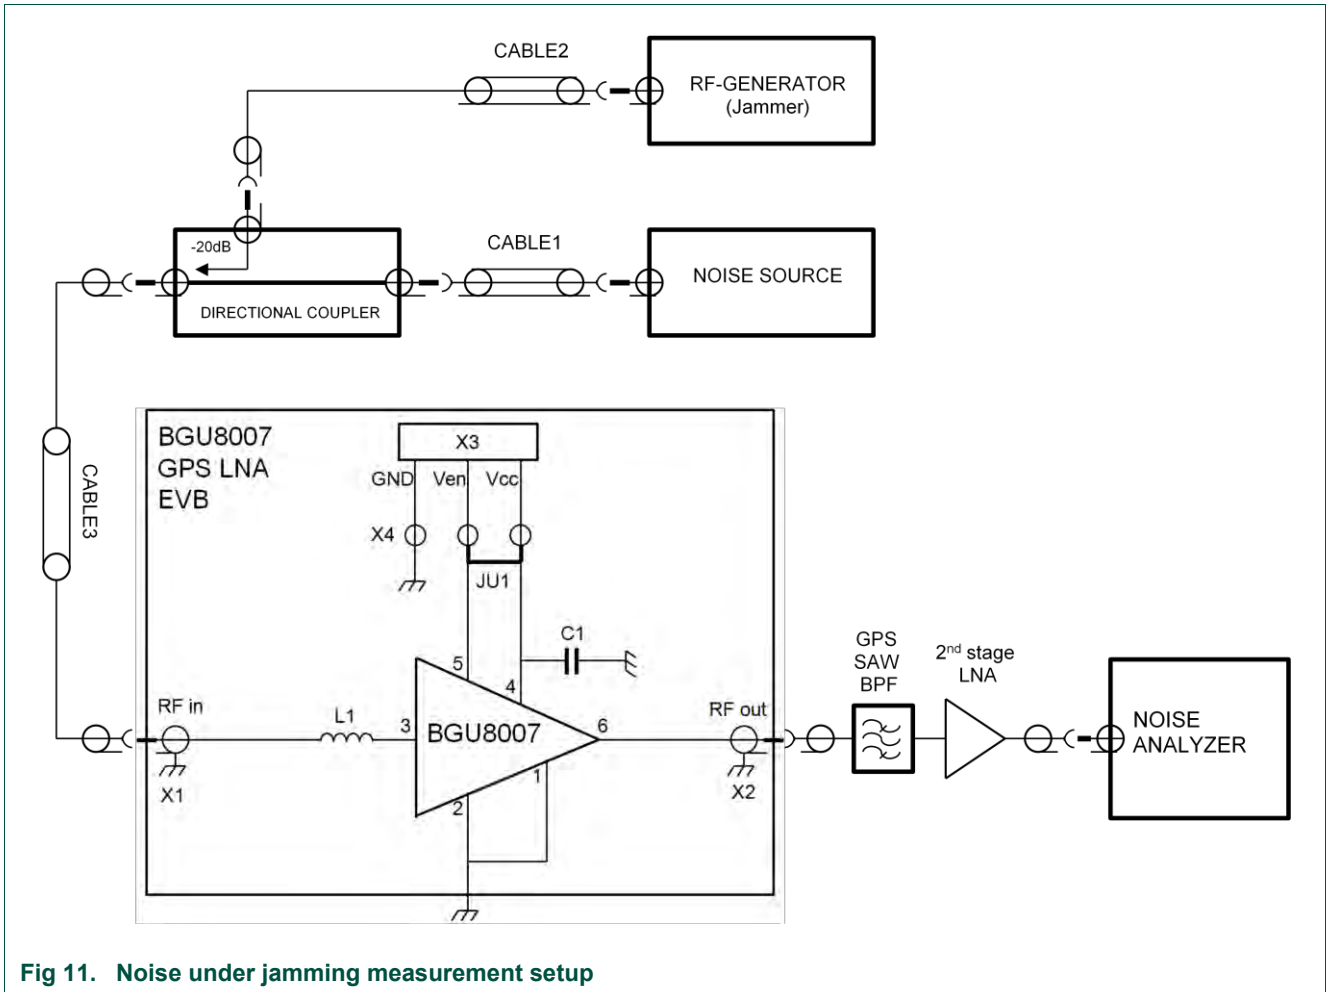

Fig 11. Noise under jamming measurement setup
9. For noise under jamming conditions, the following is needed. A 5dB ENR noise source, a directional coupler, GPS band pass filter, a noise-figure analyzer or a spectrum analyzer with noise option can be used. See **Fig 11**
Noise figure under jamming conditions is a measure of how the LNA behaves when e.g. a GSM TX interfering signal is at the input of the GPS antenna. To measure this behavior the setup shown in **Fig 11** is used.